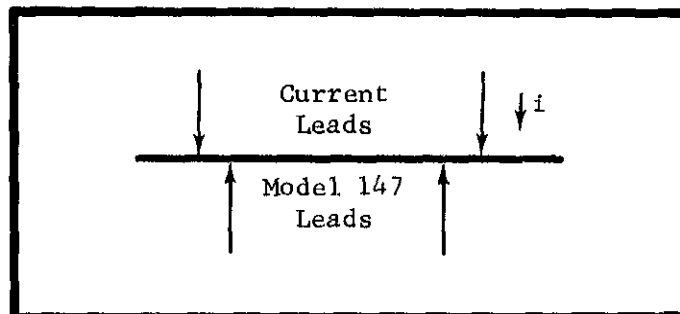

FIGURE 12. Using Model 147 with 4-Terminal Connections.
b. Four-terminal connections can often be used to eliminate this error. Refer to Figure 12.